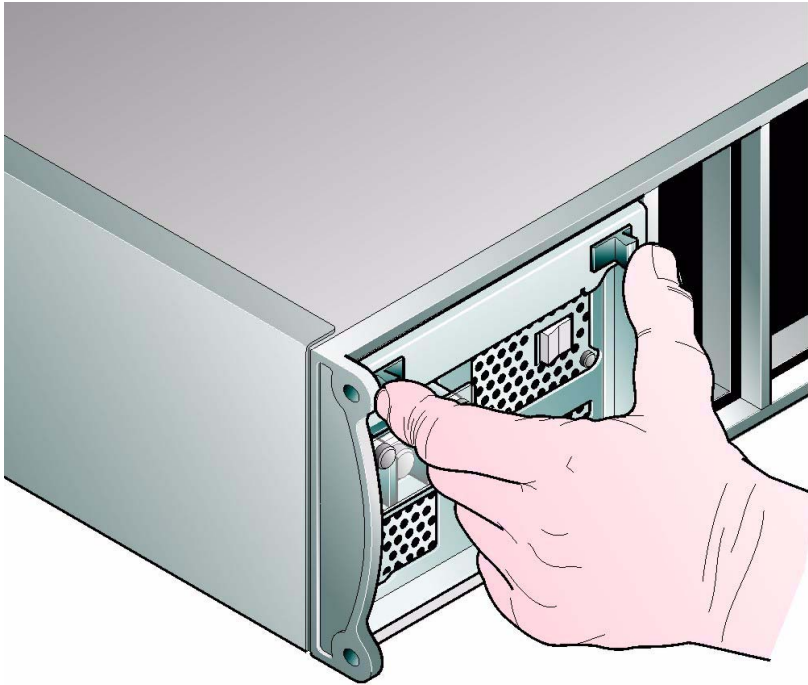

Figure 4-4 Removing/Inserting a -48V Power Supply/Cooling Module (1)
- 6 Squeeze the two latches on the PSU handle together and open the handle (see Figure 4-4) to cam the Power Supply/Cooling module out of the enclosure.